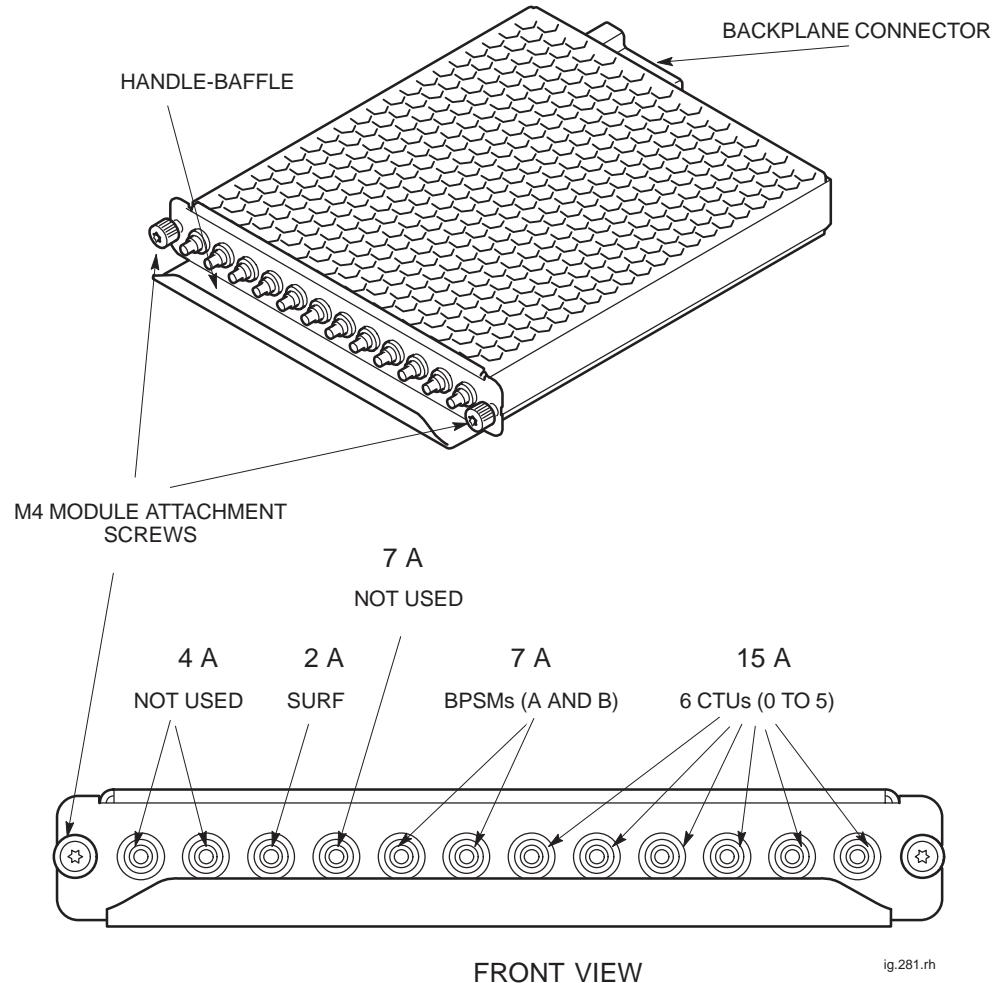

Figure 3-10 Views of CBM with circuit breaker buttons identified
Figure 3-10 shows views of the CBM with circuit breaker buttons identified.
4. Unscrew both CBM module attachment screws (shown in Figure 3-10) by using an M4 Torx driver.